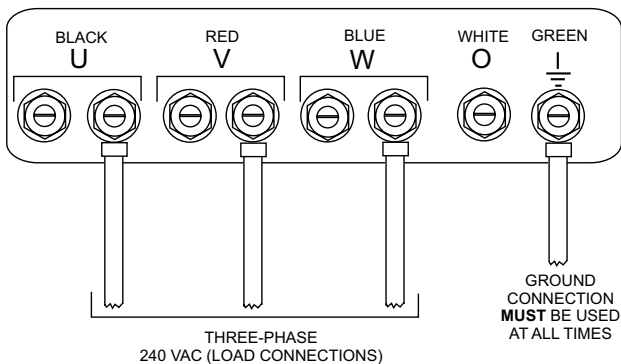

Figure 27. UVWO Terminal Lugs 3Ø-240/1Ø-139 Connections
2. Connect the load wires to the UVWO terminals as shown in Figure 27